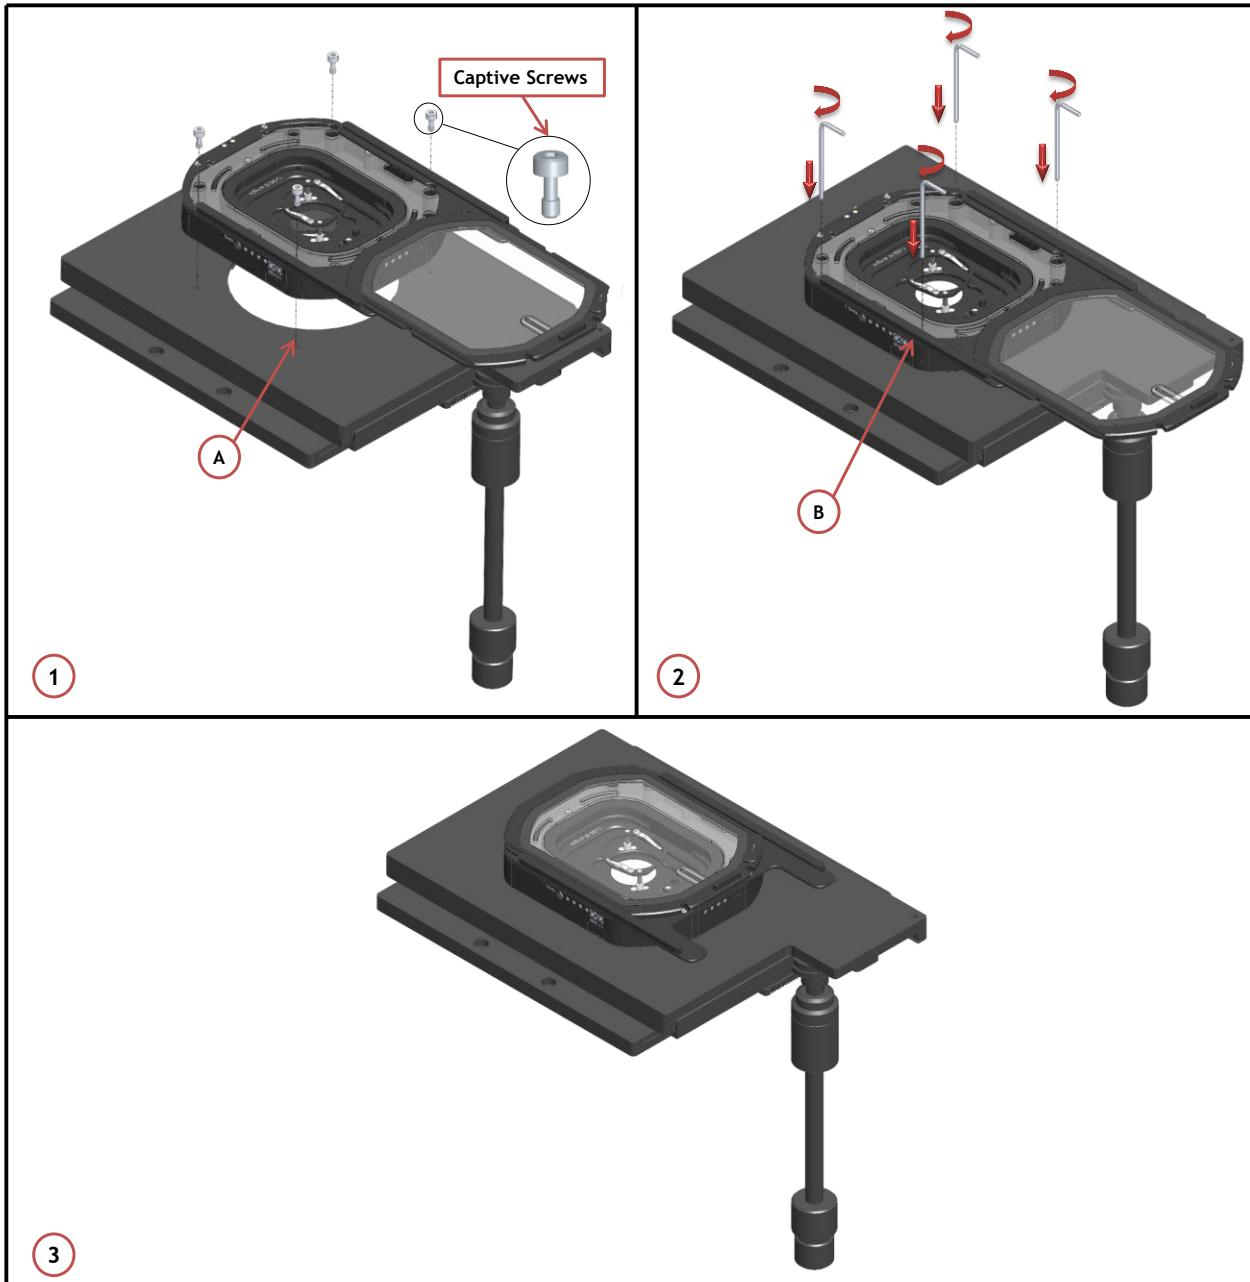

Figure 18. Connection of the Chamber with XY Stage
Follow the steps shown in the images in Figure 18 and listed below in order to correctly connect the chamber with XY stage.
1. Place the chamber on the stage and tighten 4 captive screws (See Figure 18 Image 1 and Image 2). Captive screw housings are indicated with letter B in Figure 18 Image 2
2. Use a 3mm metric Allen Wrench to tighten the four captive screws while keeping the chamber sliding lid open (See Figure 18 Image 2)